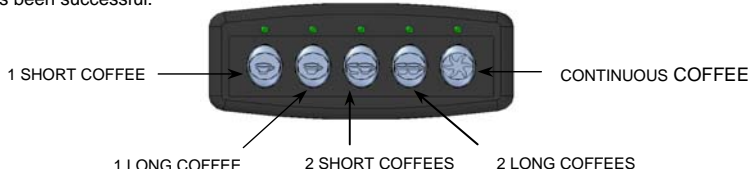

Fig. 8
Press the key 7 pad "" (continuous coffee)- see Fig. 8 -and keep it pressed for 7 seconds, until all the programming LEDs on the keyboard are simultaneously switching on. Within 5 seconds press any of the pads related to the 4 coffee selections (1 short coffee, 2 short coffees, 1 large coffee, 2 large coffees) which can be programmed. You will see all the green LEDs switch off, except the option you have pressed as well as "" led.